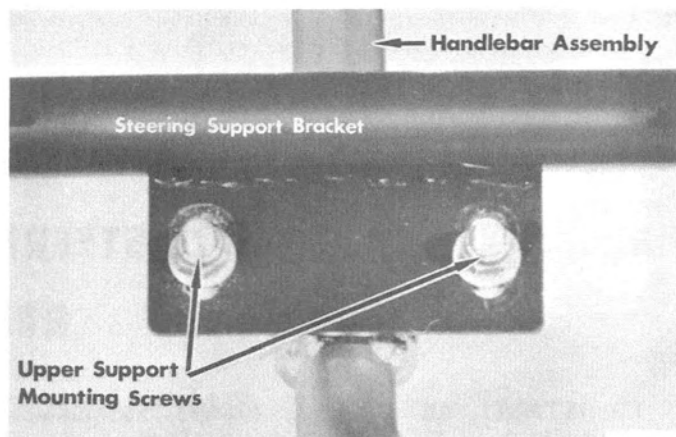

Figure 2. Upper Steering Support
5. Remove three (3) screws which secure handlebar mounting flanges and high tension lead retainer to lower support bracket.
6. Remove two (2) screws from upper handlebar support bracket. (Figure 2)